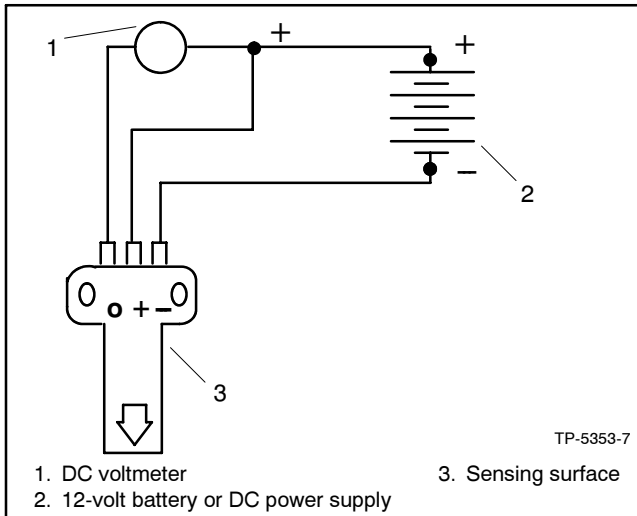

Figure 6-37 Speed Sensor Test
3. Connect speed sensor, DC voltmeter, and DC voltage source as shown in Figure 6-37.